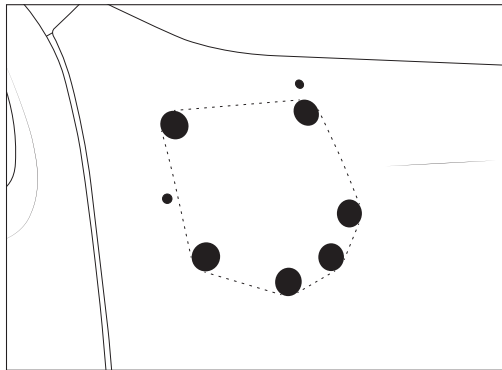

Figure 3
- a. Use a flexible straight edge and felt marker or painter's tape to mark the main hole from tangent to tangent (fig. 3).